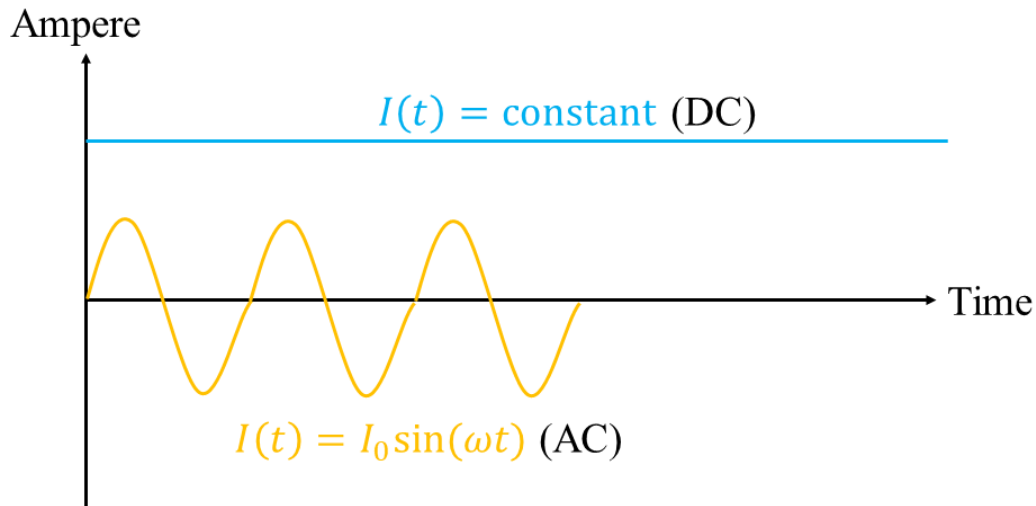

Figure 1.1. Definition of direct current (DC) and alternating current (AC).
Since we already defined the current in formula (1), we can then distinguish the direct current (DC) from the alternating current (AC) by **Fig. 1.1**. A DC current represents a constant current so that $dI/dt = 0$, while an AC current possesses an alternating current which can be described by wave functions.